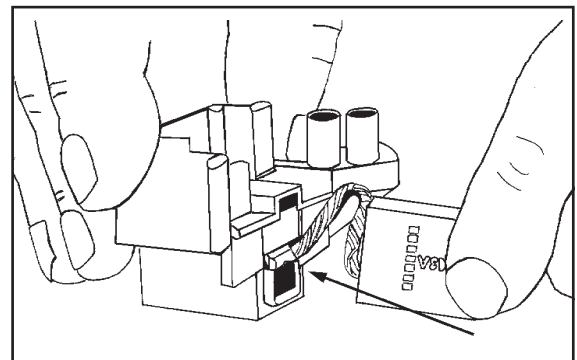

Figure 13
7. To put in a new carbon brush, negotiate the terminal on the shunt wire by the spring and brush holder guide. Take care not to damage the spring. See figure 13.